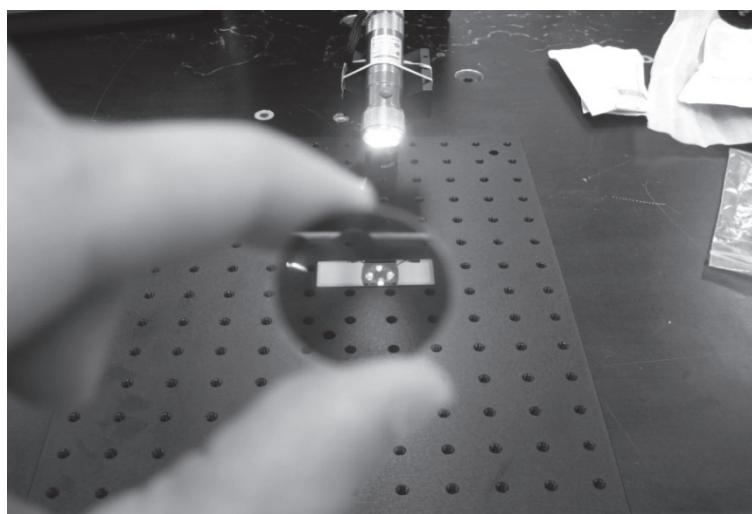

Figure 13 – Polarization by Reflection Set-up
6. Position yourself in line with the microscope slide and the LED flashlight. Move until you can see the reflection of the individual LEDs on the microscope slide. This makes the effect of the polarizing filters much easier to notice. Refer to Figure 13.